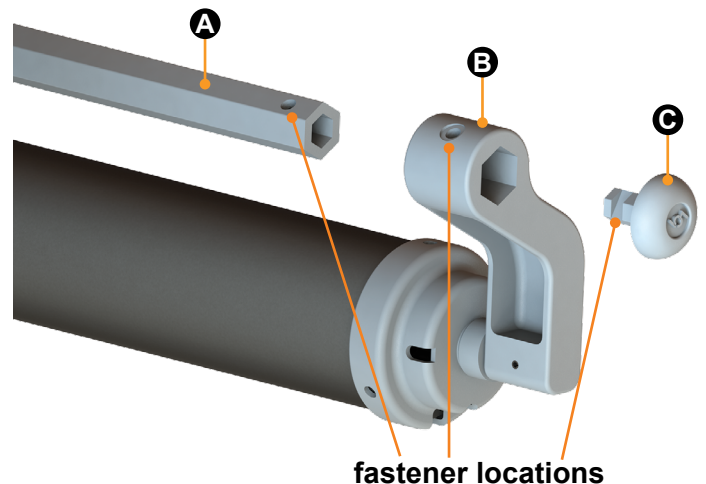
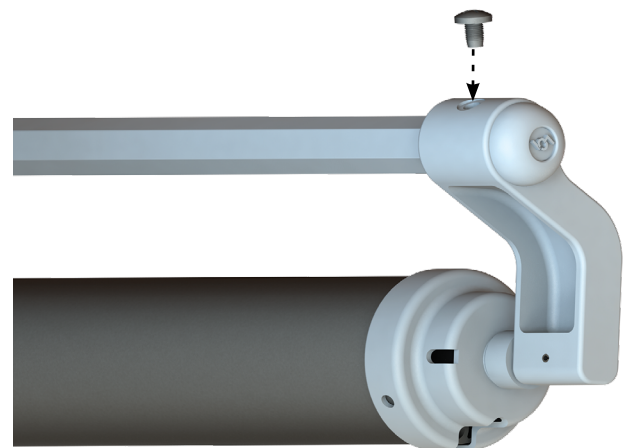

Fig.2
Fig.3
1. Slide the extension rod (Fig.2A) into the spring head assembly torsion arm (Fig.2B), aligning the fastener locations (Fig.2).
2. Slide the spring head assembly torsion arm end cap (Fig.2C) into the extension rod (Fig.2A), aligning all three fastener locations (Fig.2). Fasten using the provided 1/4" - 20 x 5/8" slotted pan head, self-threading screw (Fig.3).
8. Secure the second extension rod to the spring head assembly torsion arm using the provided 1/4" - 20 x 5/8" slotted pan head, self-tapping screw (Fig.3).